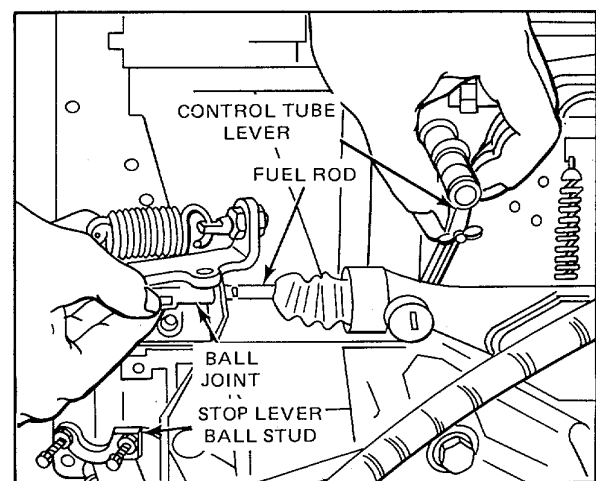

Figure 4. Adjusting Fuel Rod Length
7. Loosen the nut which locks the ball joint on the fuel rod. Hold the fuel rod in the full-fuel position and adjust the ball joint until it is aligned and will slide on the ball stud on the stop lever (Fig. 4). Position the shutdown cable clip and tighten the fuel rod locknut to retain the adjustment.